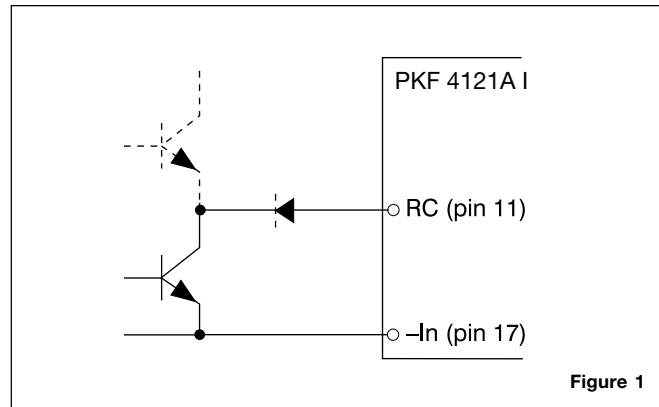

Figure 1
Turn-on or turn-off can be realized by using the RC-pin. If pin 11 is connected to pin 17 the power module turns off. Normal operation is achieved if pin 11 is open (NC). To ensure safe turn-off the voltage difference between pin 11 and 17 shall be less than 1.0 V. RC is an open collector compatible output with a sink capacity of 1 mA (see fig. 1).